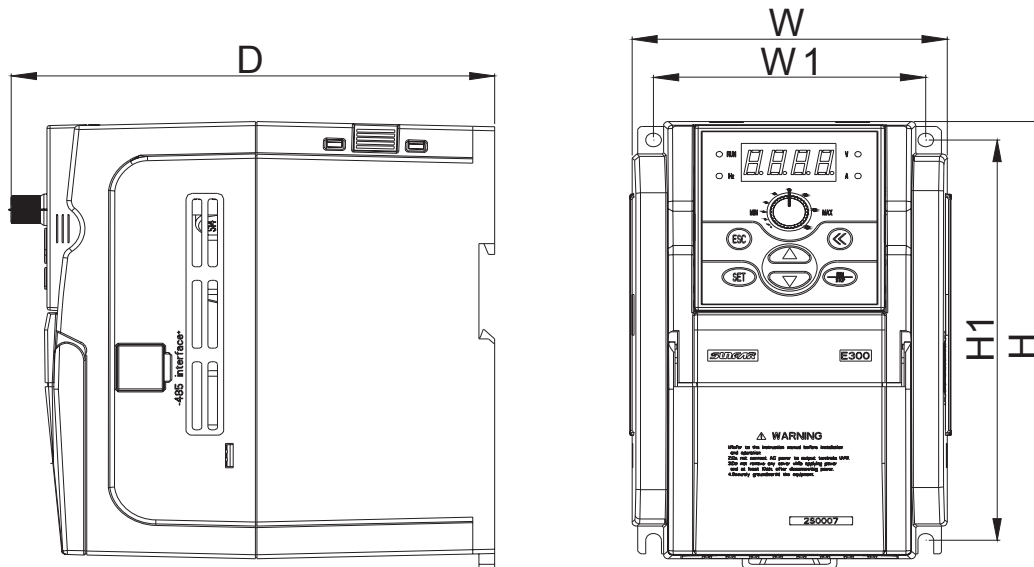

Fig 2-2-B Inverter installation dimension type II
Suitable model: E300-2S0007(B)~2S0022(B) / E300-4T0007(B)~4T00037(B) as fig 2-2-B.